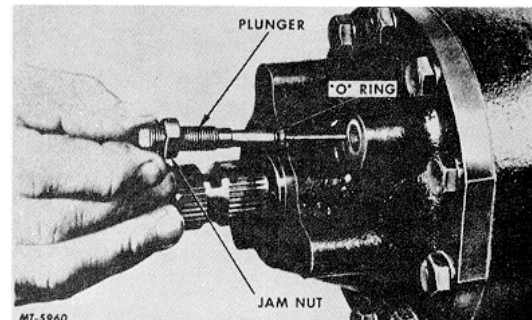

Fig. 7
4. Loosen jam nut on the relief valve plunger and remove the plungers from both ends of gear, Fig. 7.